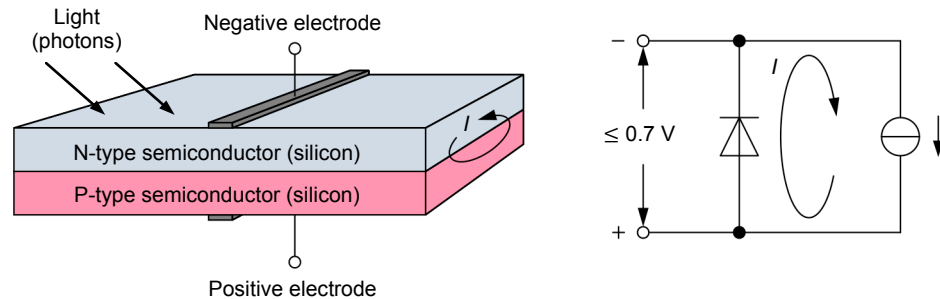

Figure 22. Photovoltaic cell construction and simplified equivalent diagram.
The basic component of a PV panel is the photovoltaic (PV) cell. Each PV panel consists of many PV cells which are interconnected in such a way as to obtain specific voltage and current values. A PV cell is basically a P-N junction that is usually made of silicon, just like the P-N junction in a silicon diode. However, the P-N junction in a PV cell is made of a thin slice of silicon to maximize its surface area, thereby allowing the PV cell to intercept as much light as possible. See Figure 22.